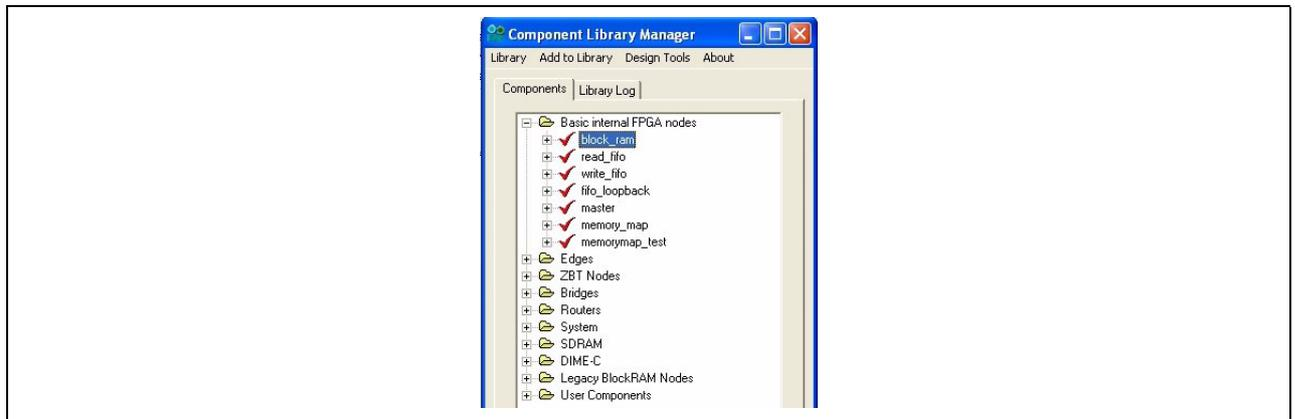

Figure 55: Edit Block RAM Component
- In the Library Manager open the Basic internal FPGA nodes folder and select the block RAM component shown in Figure 55. Note that the location of the definition and the date on which it was saved are